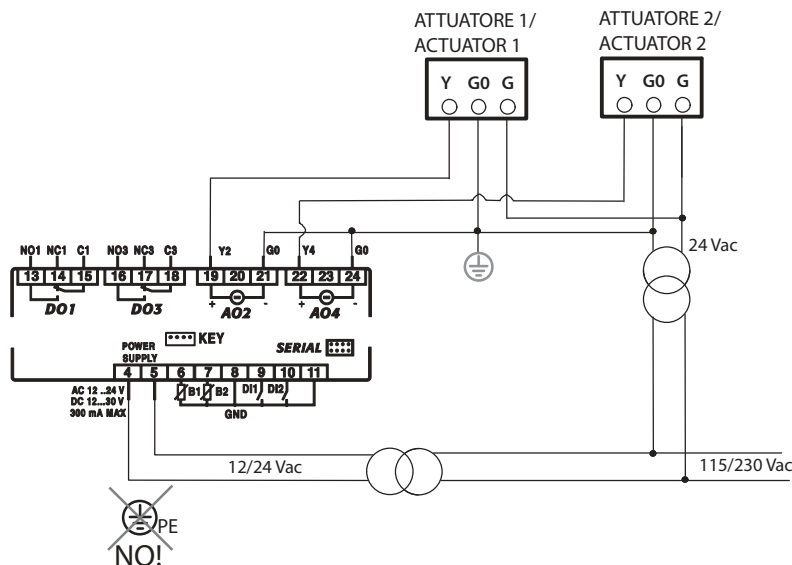

Fig. 2.t
If the actuators connected to the analogue outputs require, the earth connection (PE) can be made, making sure that this is to G0 of the outputs, as shown in Figure 2.t.